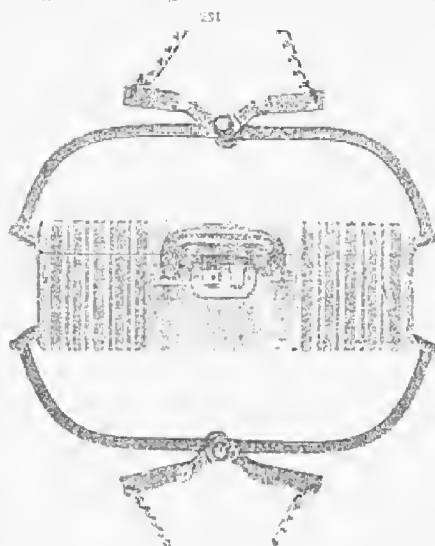

Figure 161. Tritong method of ripping open suspected package.
2. **Tritong method:** The system of ripping packages apart by remote means was designed by the New York City Bomb Squad. It consists basically of two parts of ice tongs with an attached rope about 150 feet long. The tongs are attached to the package (suitcase, etc.) and two operators at a distance rip the package apart by pulling vigorously. Figure 161 best illustrates this method.